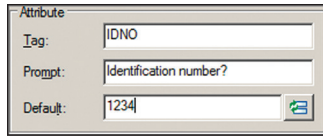

FIGURE 15.11 Creating another attribute definition
9. Press the spacebar to repeat the ATTDEF command. Type IDNO as the tag, Identification number? as the prompt, and 1234 as the default (see Figure 15.11). Set Justification to Middle Center and click OK. Click the midpoint of the lower diagonal line at point E in Figure 15.8.